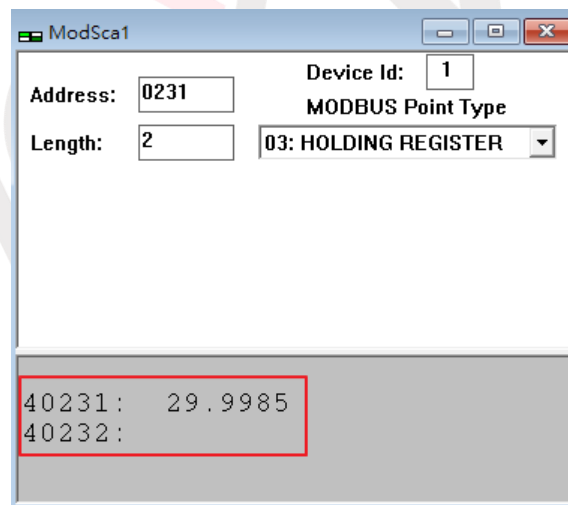

Figure 4-52 Modbus AI Physical Value
Referring to Modbus Table 4.1.2.3.4, the AI physical value read from the Modbus address is depicted in Figure 4-52. The unit of the voltage value is volts (V), and the data type is Float.